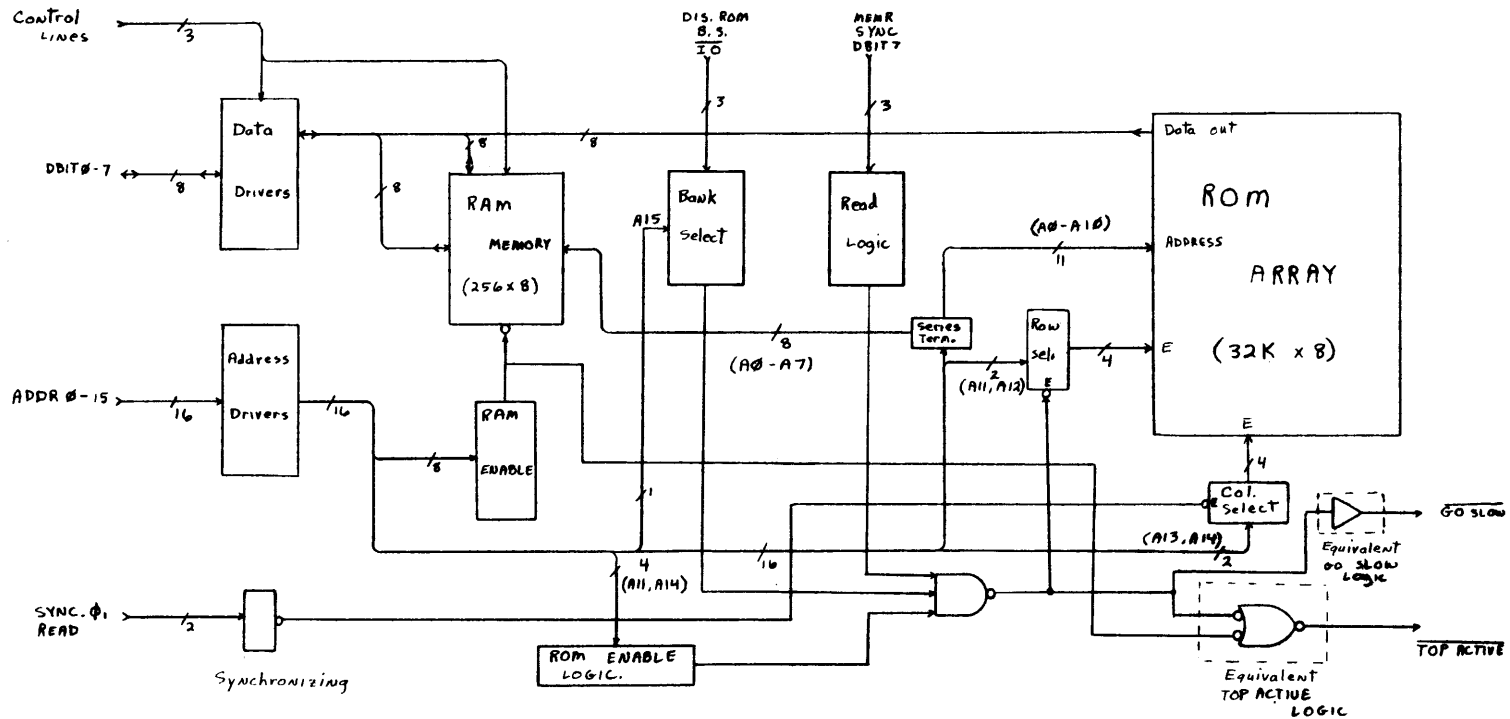
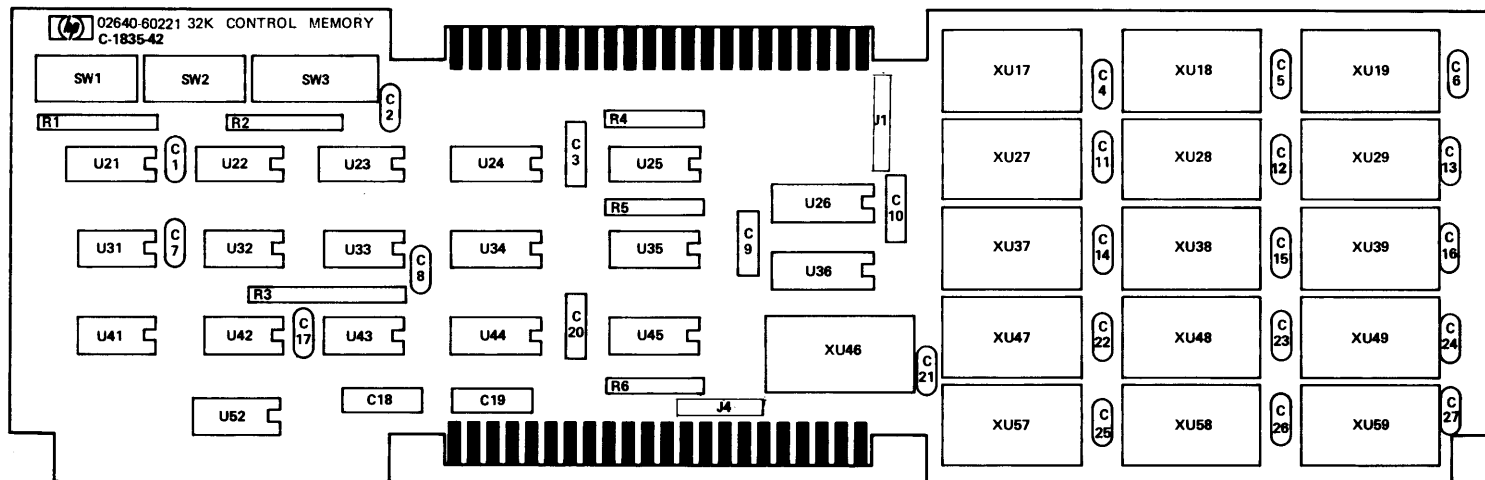

Figure 1
Figure 4
3.0 FUNCTIONAL DESCRIPTION. Refer to the block diagram (figure 1), schematic diagram (figure 2), timing diagram (figure 3), component location diagram (figure 4), and parts list (02640-60221) located in the appendix. The 02640-60216 PROM Control Memory PCA uses the same block, timing, and component location diagrams and parts list.